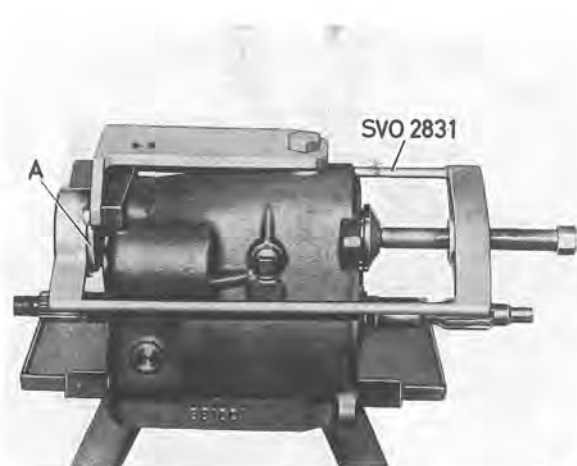

Fig. 4-30. Installing intermediate shaft bearing
6. Turn the gearbox upside down. Press the insert drift into press tool SVO 2831. Then press on the bearings for the intermediate shaft with the press tool, see Fig. 4-30. Fit the clutch casing with a new gasket.